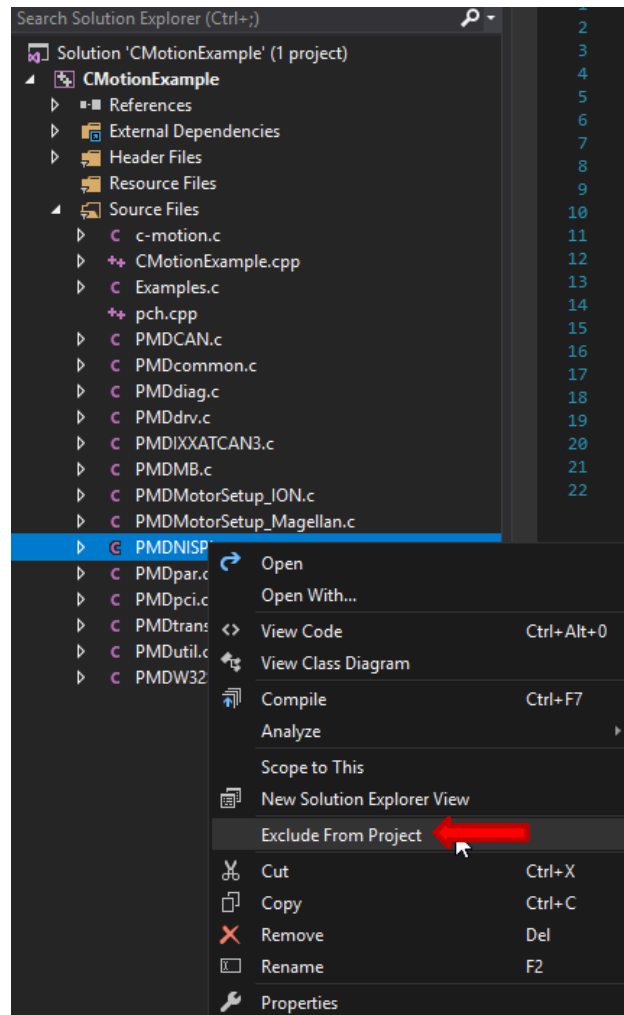

Figure 35 - VS2019 Excluding Uninstalled Dependencies
- 7) Exclude the .c files that have uninstalled dependencies or required devices. The following interfaces have device specific driver requirements and will not compile unless those drivers are installed. See Figure 35 - VS2019 Excluding Uninstalled Dependencies